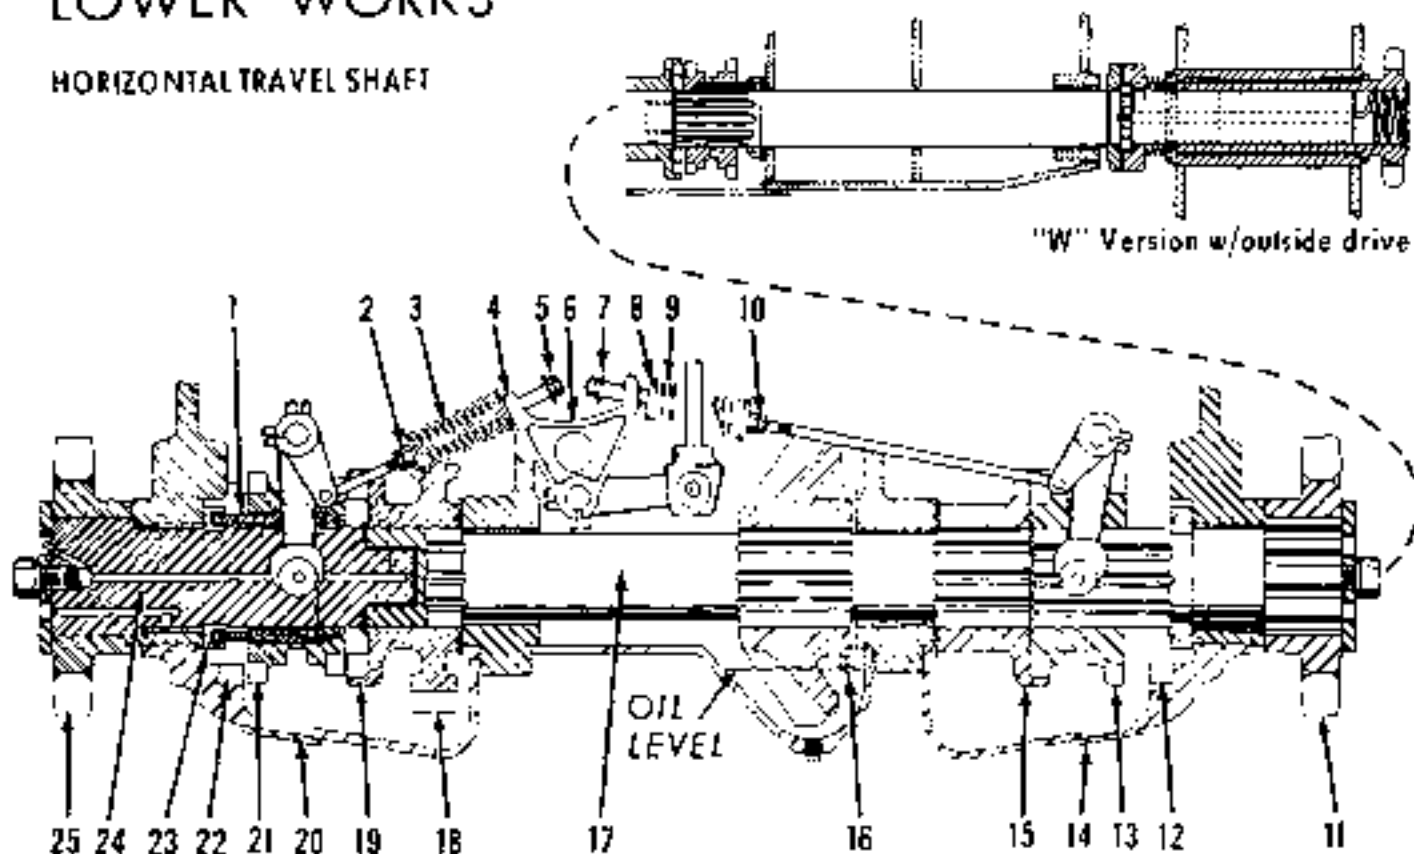

FIG. 15
Figure 15 also illustrates another available position of the clutch — neutral position. This neutral position allows the operator to make a long sweeping turn.
5) Check weekly to be sure oil level in center compartment is at the proper level. (SEE FIGURE 15) Bevel gear and pinion will give longer service if kept well lubricated. No grease or oil is required in the steering clutch compartments. All parts therein are lubricated from grease fittings in the outer ends of the sprocket travel shafts - actually, grease or oil in the pans is harmful because it can cause sluggish clutch action.